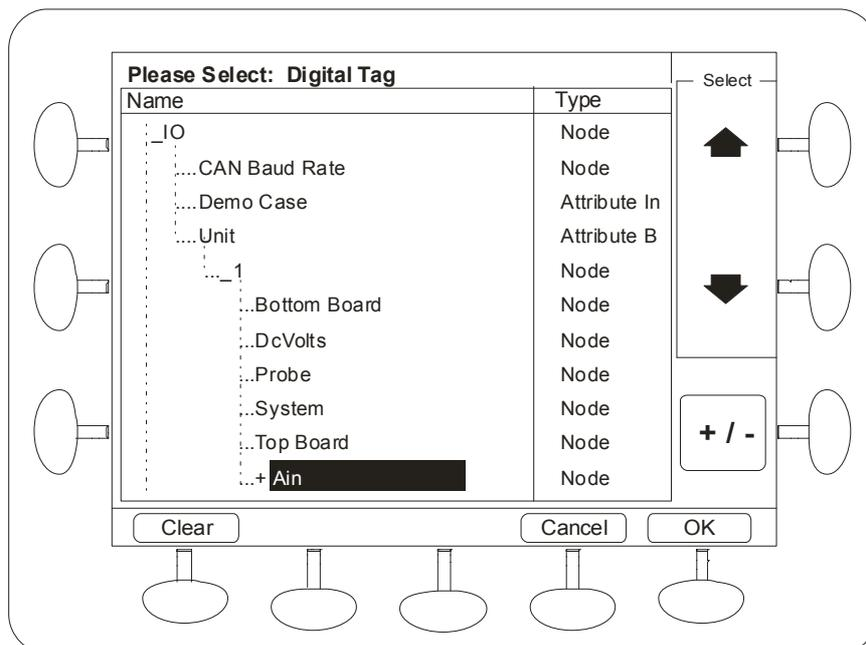
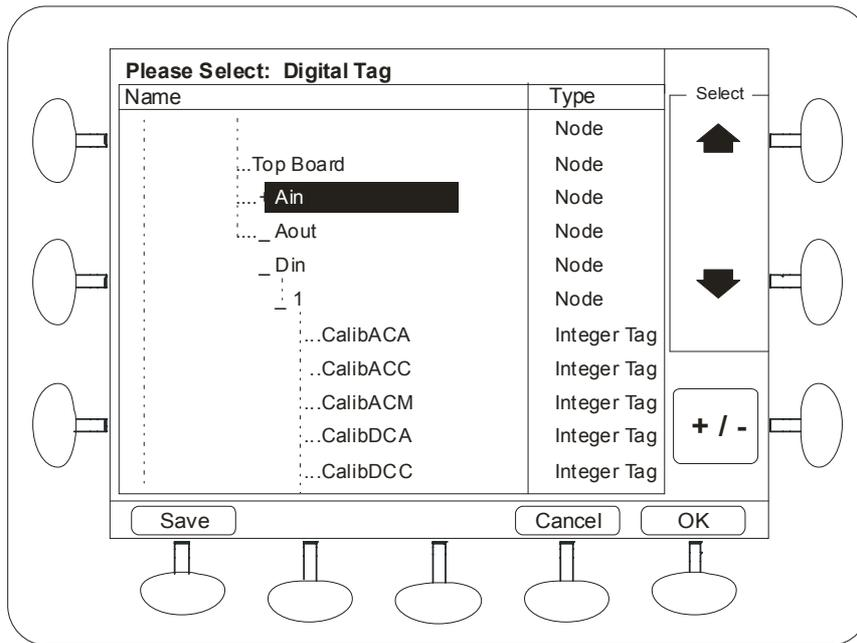

Figure 71 – Tag browser screen
Figure 72 – Tag browser screen –continued.
- Select a digital input tag. By default, this is set to DIN 20 on the top board. Any digital tag in the system can be selected, allowing greater flexibility than just using Digital Inputs. To choose another Digital Input, simply use the tag browser to find the appropriate DIN, and choose **ValueDigital** (see Figure 71 and Figure 72 in Section 11.1 below).